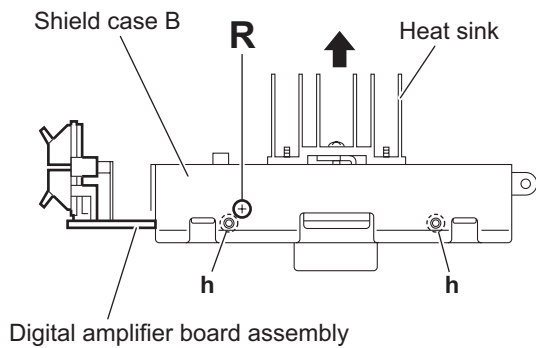

Fig.18
- (2) From the top and bottom sides of the digital amplifier board assembly, remove the three screws **R**. (See Figs.18 and 19.)
- (3) Release the joints (**h, j, k, m**) and remove the shield case B with the heat sink in the direction of the arrow. (See Figs.18 to 21.)